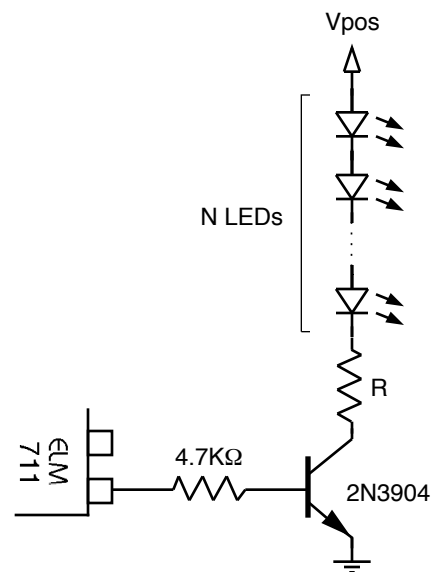

Figure 5. Driving LED Strings
Often, the ELM711 will be used to drive more than one LED per output, however. The circuit of Figure 5 shows the IC connected to a transistor driving several LEDs from a power supply of V_{pos} volts. As long as the sum of the LED voltages is less than V_{pos} , the resistor (R) will have a significant voltage across it, and the total current in the string will be determined by the voltage across the resistor R, and the value of the resistance.